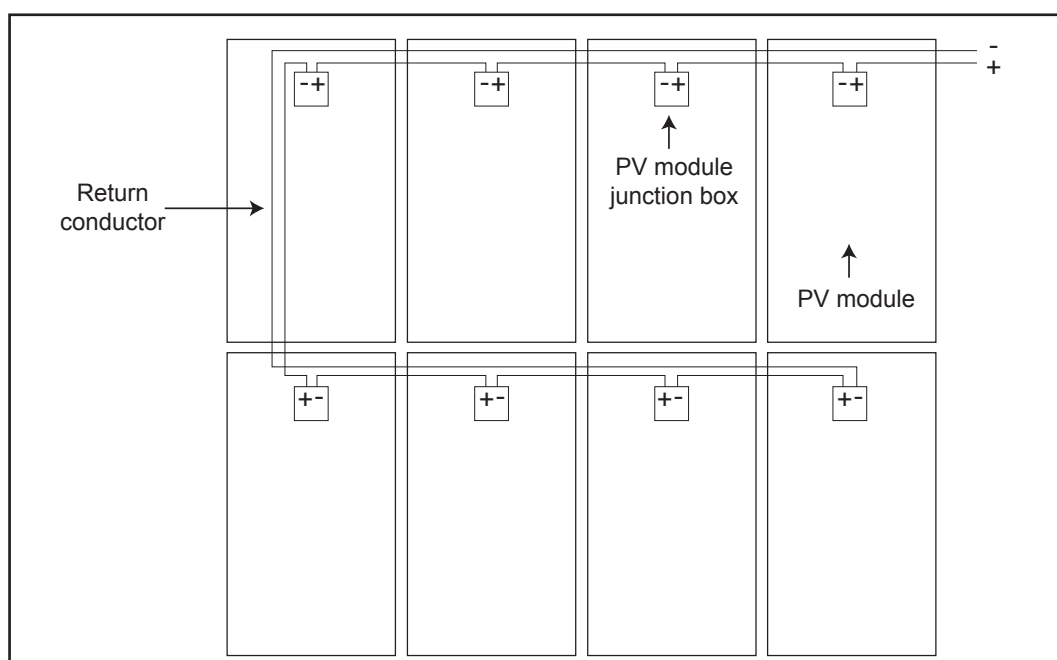
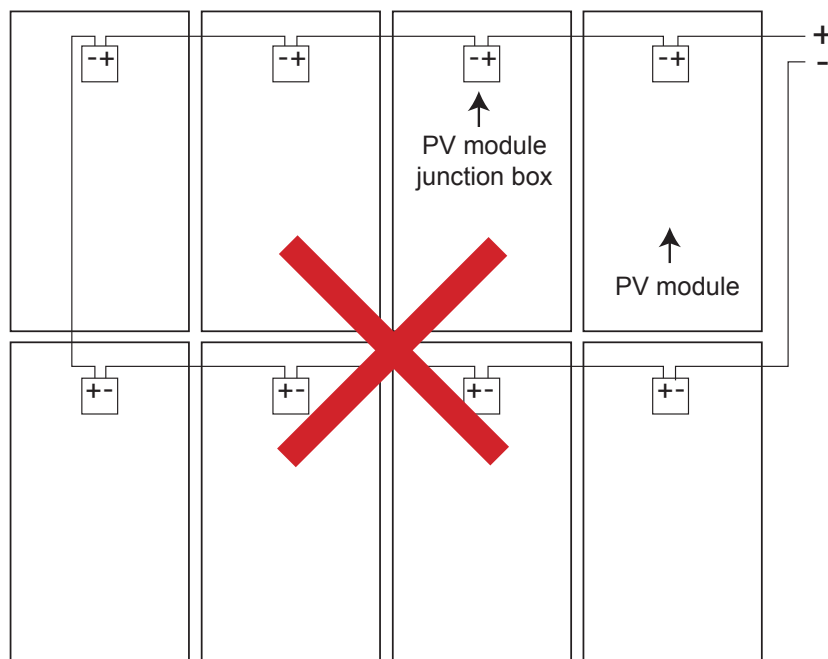

Figure 13: Example of Wiring to avoid Conductive Loops
Figure 16: Example of Wiring to be avoided because it includes Conductive Loops
- Cables need to be laid in parallel close together to avoid wiring loops which could cause damaging high voltage surges to the controller or inverter if there are nearby lightning strikes. Figures 13, 14 and 15 give examples on how a conductive wiring loop can be avoided while Figure 16 shows a wiring arrangement that will cause a conductive loop and should not be used. For minimizing lightning generated voltage surges, the positive and the negative wires should always be run together.